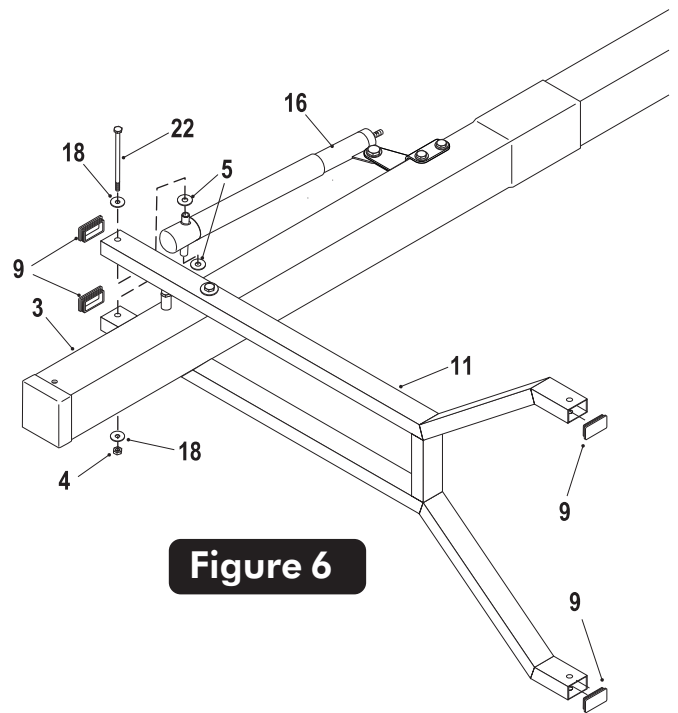

Figure 6
9. Secure Actuator (#16) to Lower Arms (#11) using one bolt (#22), two flat washers (#18), two plastic washers (#5) and one lock nut (#4). See Figure 6. Tighten both bolts (#22) **snug but, do not over tighten. Board Arms must pivot freely.**